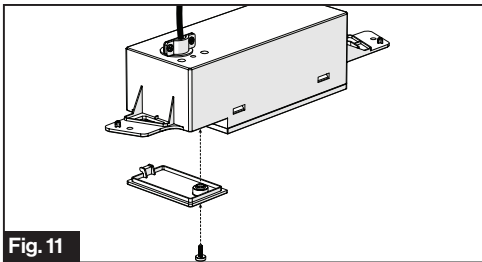

Fig. 11
12. Fit all cables into the cable compartment and tuck any excess wires up out of the way. Tighten the cover with screw. (Fig. 11)